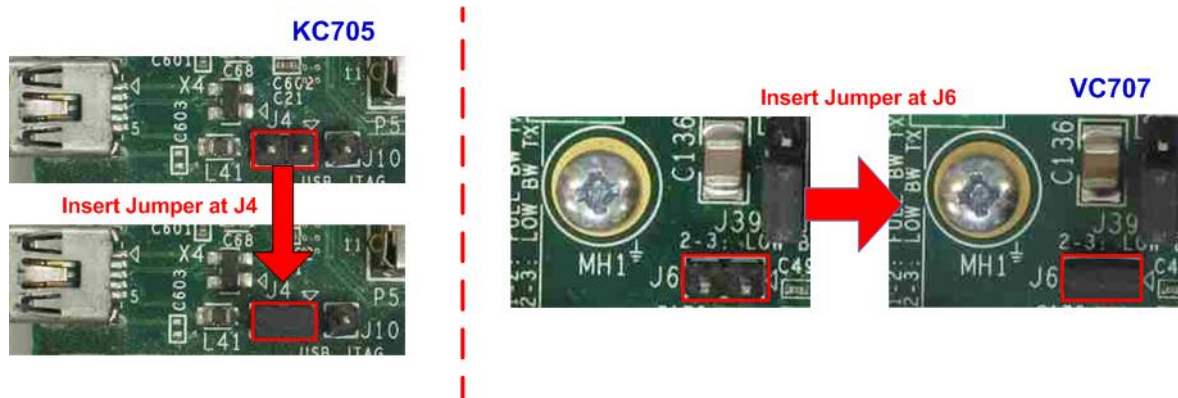

Figure 2-5 KC705 and VC707 board setting
- b) For the KC705/VC707 boards, configure the settings as shown in Figure 2-5.